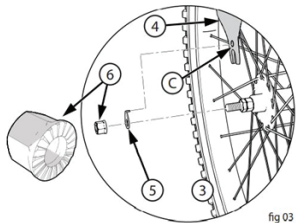

fig 03
2. Set the Front Wheel (3) into the front fork (4) (fig 03). Install wheel retainers (5) making sure the tabs are in the Fork Retainer Holes (C).
3. Attach the front wheel with the Axle Nuts (6). Tighten Axle Nuts to 21 ft.-lbs.